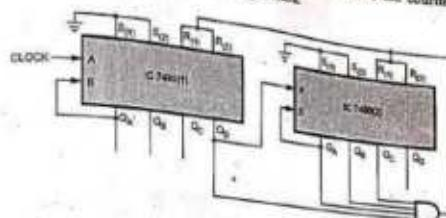

Fig. 5.12.4
**Solution :** IC 7490 is a decade counter. When two such ICs are cascaded, it becomes a divide-by-100 counter. To get a divide by 78 or MOD-78 counter, the counter is reset as soon as it becomes 0111 1000 as shown in Fig. 5.12.4.